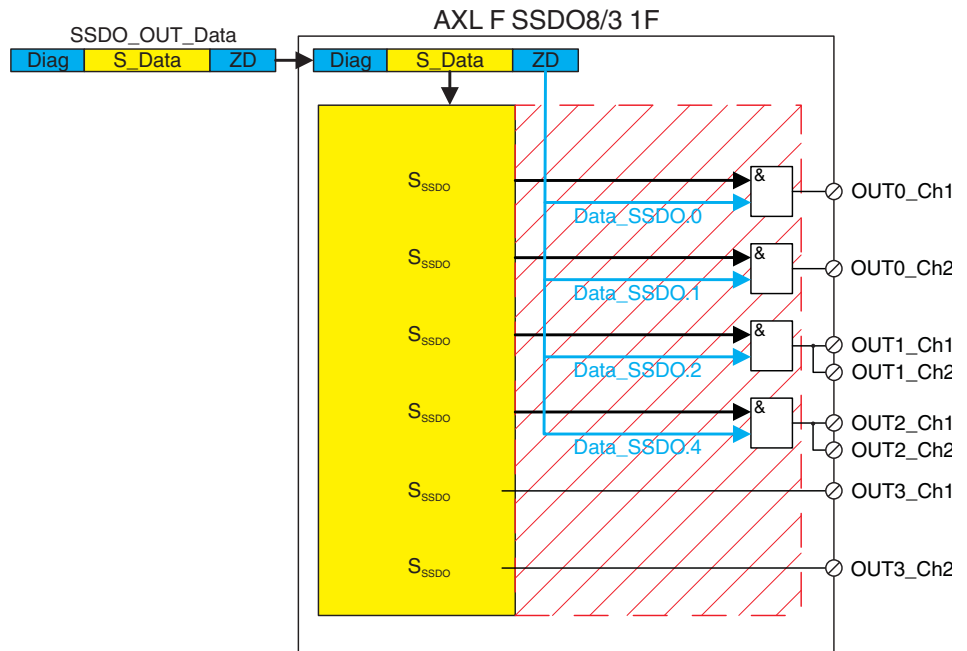

Figure 2-4 Enable principle (example)
**Explanations for Figure 2-4:**
Table 2-4 Parameterization of output channels for the example in Figure 2-4